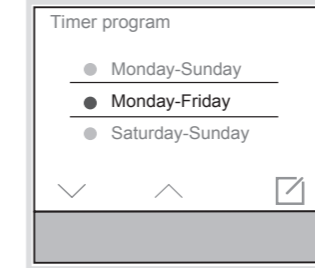

Figure 12: Setting timer
- Confirm with [OK] (figure 12).